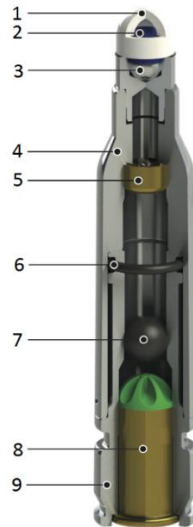

Fig. 1. Cross-sectional view of a UTM MMR cartridge [3]:
The UTM brand cartridge (Fig. 1) has a piston case, comprising an outer slide (4) and an inner body (9) within the former. Inside the inner round is a calibre .22 cartridge rear primer (8), which is a rimfire round. When the rear primer (8) is initiated, its propellant gas propels a ball (7) in the ductway running along the body (9). The ball (7) hits a pistol-type (Boxer) front primer (5) to initiate it and propel the marker projectile through the weapon's barrel. There is an o-ring gasket (6) which provides a seal at the interface of the slide and the body (4 and 9). Once the rear primer has been initiated, the increasing gas pressure propels the ball (7) and extends the body (9) in relation to the slide (4). This kicks back the breech bolt to cycle the automatic mechanism of the firearm. The marker projectile dome (1) is press-fitted inside the forward end of the slide (4) [1]. The cartridge case dimensions match those of the standard NATO intermediate cartridge calibre 5.56×45 mm (SS109); the overall marker cartridge length is shorter than that of the SS109 because of the UTM MMR projectile, which is 53 mm long [2], while the combat live SS109 projectile is 57.4 mm long.